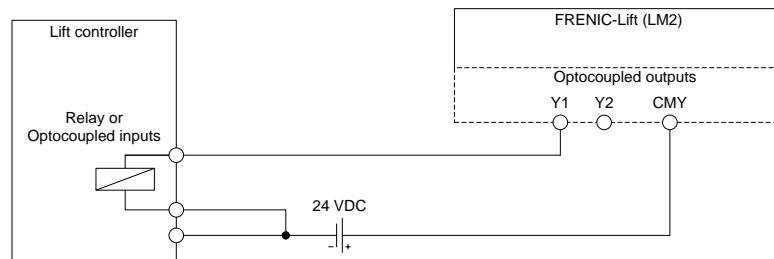

Figure 5.6: Connection using PNP (Source) Logic
- ⚡ In case of Figure 5.6 example, the voltage OFF is 24 VDC (Power supply connected to CMY).